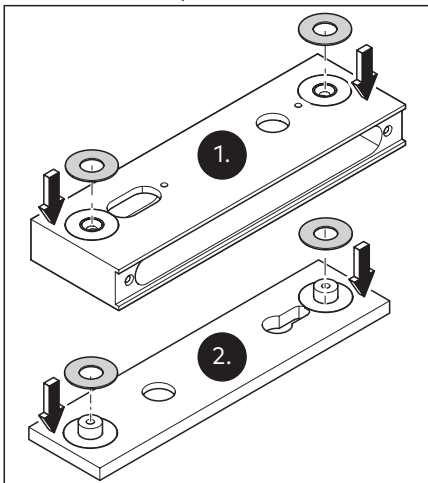

Fig. 22 Attach the gaskets.
- Attach the gasket on the glass side of the lock mortise (Fig. 22).